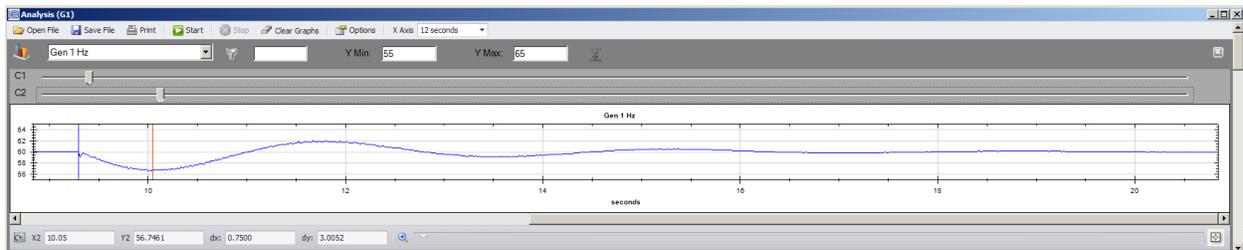

Figure 22-2. 750 ms time to local speed minimum – Initial T1a 0.375
2. Measure the time from load application to first local minimum of speed signal. Set the T1a Washout Filter Constant to roughly half of this value. The example plot in Figure 22-2 shows the local speed minimum being reached 750 ms after load application. Thus, the T1a Washout Filter Constant should be set to 0.375, half of the measured time.